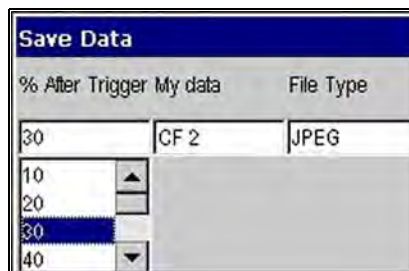

Figure 5-28 Sample Save Data dialog box
1. From the Vantage PRO main menu, select **Utilities > Tool Setup > Save Data**. The Save Data dialog box displays (Figure 5-28).